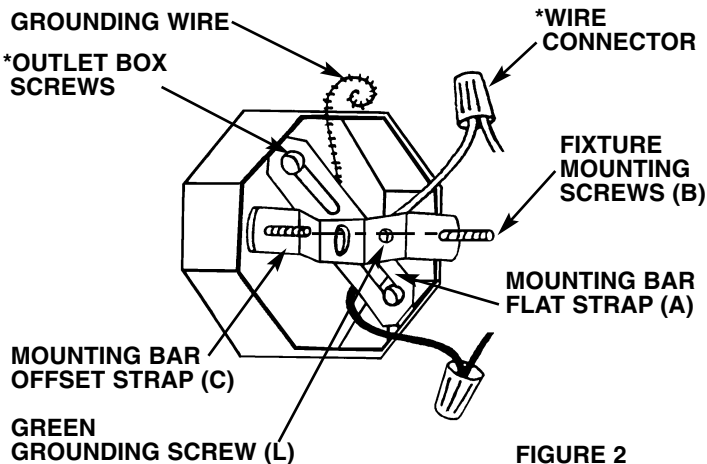

FIGURE 2
Insert fixture mounting screws (B) in threaded holes of mounting bar offset strap (C). Run screws all the way down to the heads. (See Fig. 2).